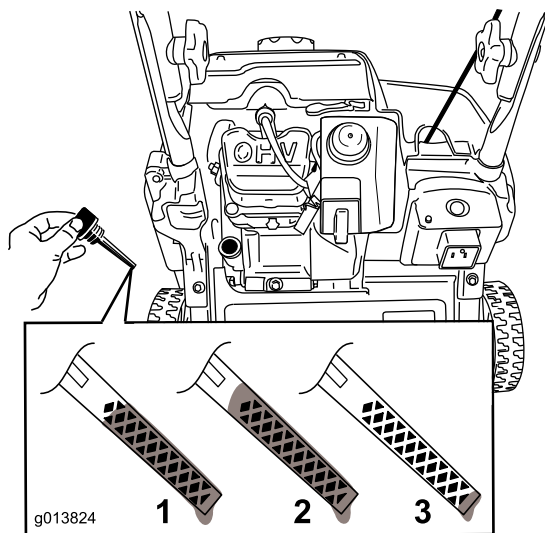

Figure 13
8. To determine the proper oil level on the dipstick, refer to Figure 13.
Note: Fill the engine crankcase with oil until the dipstick indicates that the engine oil level is correct as shown in Figure 13. If you overfill the engine with oil, remove the excess oil as directed in Changing the Engine Oil.